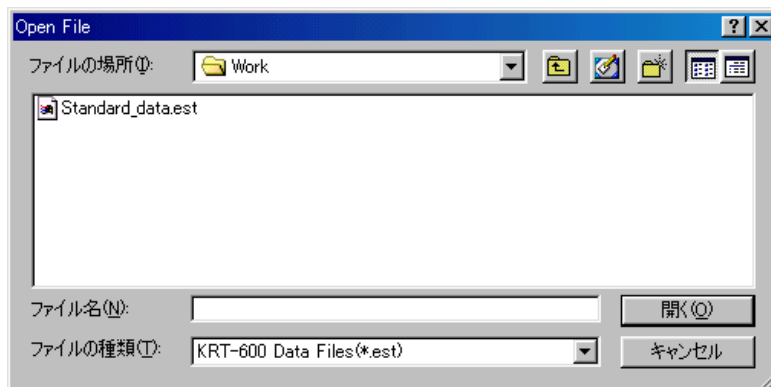

Fig. 13 Open Dialog
- (2) Go to the pull-down File menu and select Open, or click the File - Open icon (left end) on the toolbar. The Open dialog shown in Fig. 13 appears.